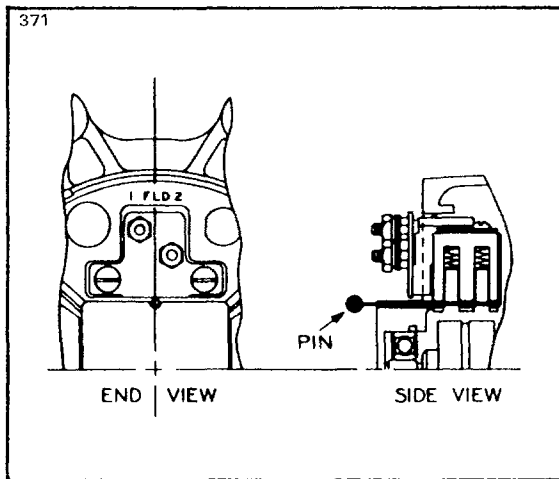

Figure 11-83. Brush Installation
c. Brushes: These units have a separate brush holder assembly that is installed after the alternator has been assembled. The brush holder has a small hole that intersects the brush cavities. Use a pin or a piece of wire, as shown in Figure 11-83 to hold the brushes in the holder during assembly. Remove the pin after the brush holder retaining screws have been tightened. Make a continuity check to be sure the brushes are seated against the slip rings.